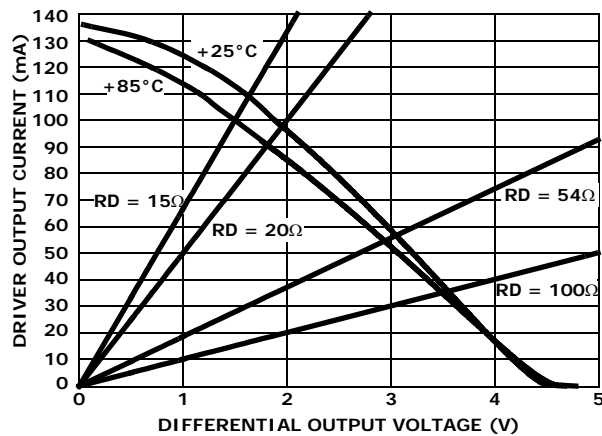

FIGURE 8. DRIVER OUTPUT CURRENT vs DIFFERENTIAL OUTPUT VOLTAGE
- See Figure 8 for more information, and for performance over-temperature.
Another advantage of the large V_{OD} is the ability to drive more than two bus terminations, which allows for utilizing the ISL315xE in "star" and other multi-terminated, "nonstandard" network topologies. Figure 8, details the transmitter's V_{OD} vs I_{OUT} characteristic, and includes load lines for six (20Ω) and eight (15Ω) 120Ω terminations. The figure shows that the driver typically delivers $1.65/1.5\text{V}$ into $6/8$ terminations, even at the worst case temperature of $+85^\circ\text{C}$. The RS-485 standard requires a minimum 1.5V V_{OD} into two terminations, but the ISL315xE delivers RS-485 voltage levels with 3x to 4x the number of terminations.